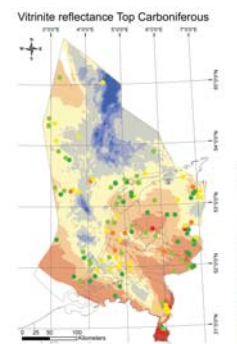

Figure 3 Maturity at Top Carboniferous. The maturity map is based on in-house measured vitrinite reflectance values of the Carboniferous at 115 well locations
- Maturity of Carboniferous source rocks (Figure 3)